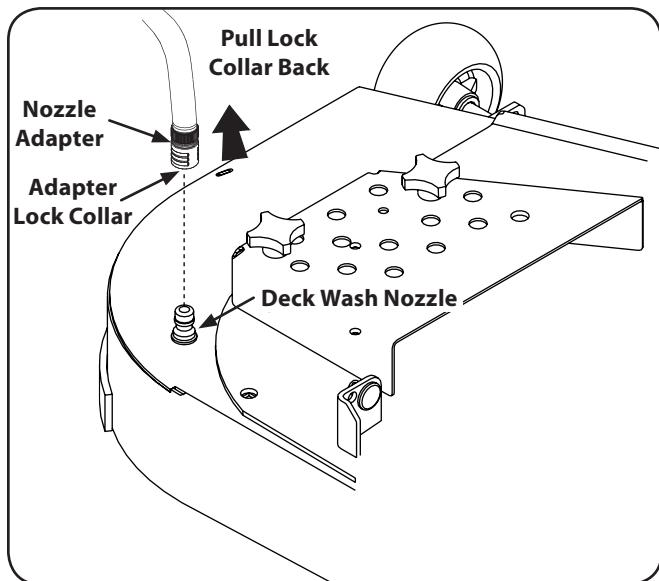

Figure 6-5
- Pull back the lock collar of the nozzle adapter and push the adapter onto one of the deck wash nozzles at either end of the mower deck. Release the lock collar to lock the adapter on the nozzle. See Fig. 6-5.